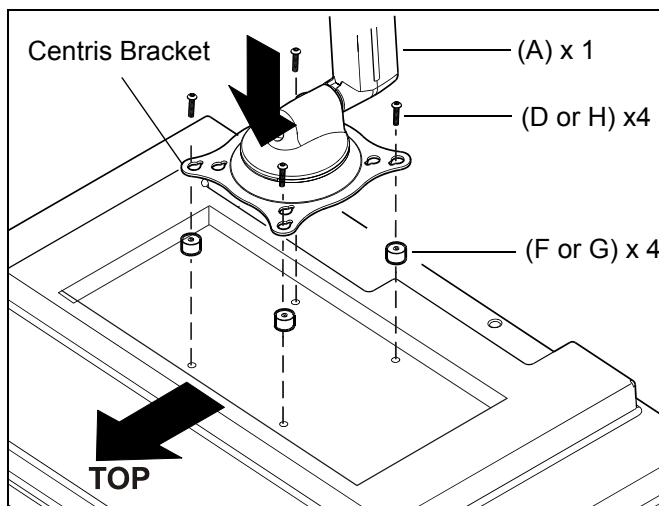

Figure 8
- Determine depth of recessed mounting holes relative to back surface of display (against which Centris head will contact). (See Figure 8)
- Select proper length spacer and screw. (See Figure 8)
- Pick up and orient the mount (A) so that the mounting holes in the Centris bracket are aligned with the holes in the spacers; rotate the bracket as required. (See Figure 8)
- Using Phillips screwdriver, install four screws (D or H) through the mounting holes in Centris bracket, through the spacers (F or G), and into the display. (See Figure 8)